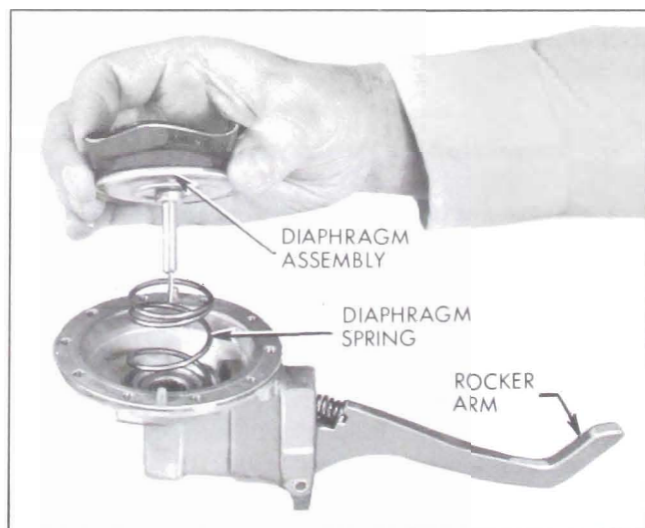

Figure 3-15—Diaphragm Assembly
1. If rocker arm and link were removed (subpar. b above), place new rocker arm spring and link in position in pump body with rocker arm and use a slightly undersize rod through pin hole to line them up. See Figure 3-15. Drive new rocker arm pin through body, forcing lineup rod ahead of it. Install new steel washer over small end of rocker arm pin, support head of pin on a suitable steel block, andpeen small end of pin to retain washer and pin in place.